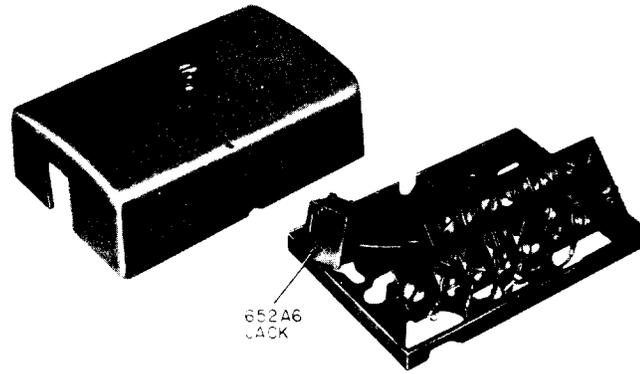

Fig. 5—74D Connecting Block (MD)
**2.06** The 74D connecting block (MD) (Fig. 5) consists of a terminal strip, 652A6 jack, and plastic cover. The block is intended for use with modular telephone sets requiring a 6-conductor modular jack (sets equipped with a D6AM or D6AP cord). The modular jack fits in the cutout on the cover and is held in place on the lip of the base pan when the cover is installed. ♦The 74D connecting block (MD) is replaced by the 625S6 connecting block which is described in Section 461-610-100.♦